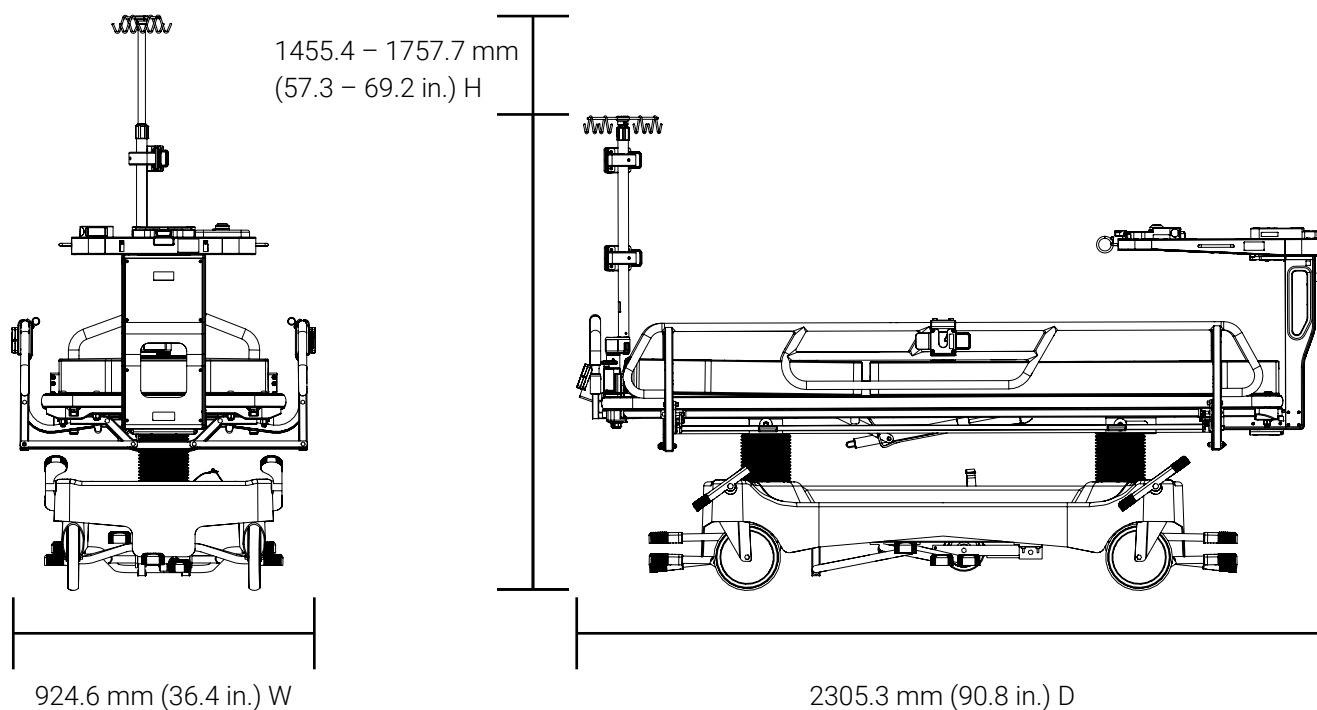

Figure 17: ContinuuMed – C1 and Techlem Premier Series 5000 stretcher dimensions
Figure 17 illustrates the dimensions of the ContinuuMed – C1 and Techlem Premier Series 5000 stretcher. The ContinuuMed – C1 is composed of four (4) main components. The subsequent sections illustrate the dimensions of each main component.